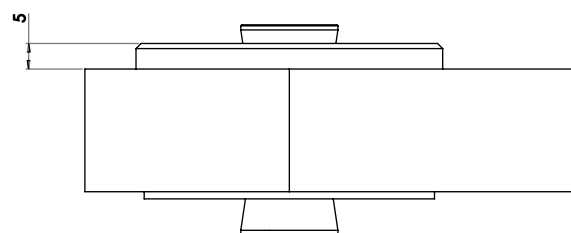

Figure 2
3. Push the Spherical Bush into the wishbone from the radiused side, with the chamfered edge downwards. Press only on the flat top of the shell until it is approximately 5mm from the top surface of the arm (Figure 2).